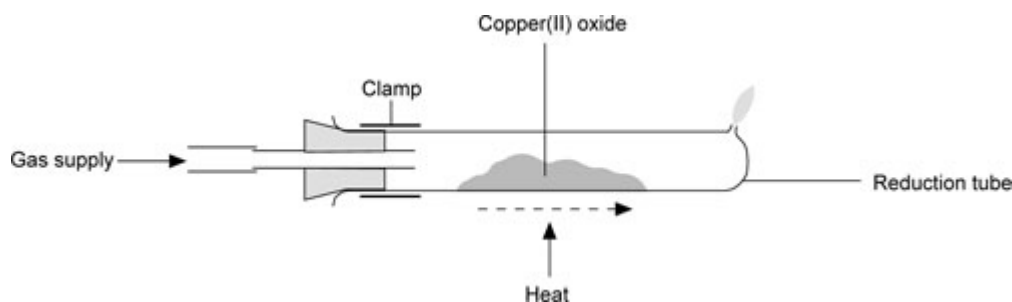

Fig. 1 Apparatus for copper(II) oxide reduction
- One reduction tube, *ie* a Pyrex boiling tube with a small hole blown about 1 cm from the closed end (Fig. 1).